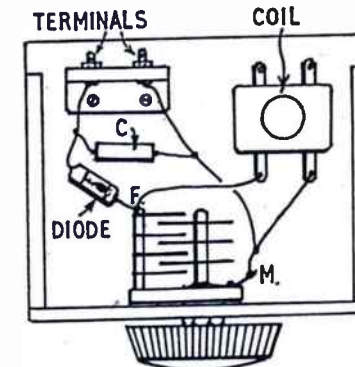

Fig. 2—Wiring plan of meter
panel $3\frac{1}{2}$ ins. by $2\frac{1}{2}$ ins., with baseboard $3\frac{1}{2}$ ins. by $2\frac{1}{2}$ ins. will be large enough, giving a layout as indicated in Fig. 2, which shows all connections. To make the whole rigid, two panel brackets are required, and these can be cut from thin wood.
Coil winding will be clear from Fig. 3, and 28 S.W.G. or 26 S.W.G. enamelled wire is used. The larger winding is thirteen turns side by side. One end of this winding goes to (F) in Fig. 2, this indicating the fixed plates of the variable condenser. The other end goes to the moving plates (M).
Wiring is very simple, and will be seen from Fig. 2. The knob must be locked firmly to the condenser, and not removed once the unit is calibrated.